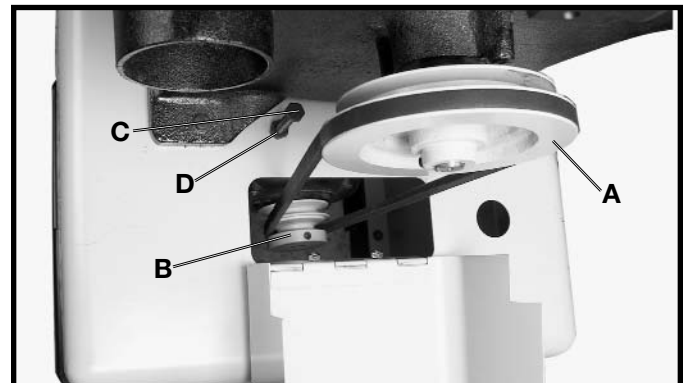

Fig. 18
1. Place the belt over the saw pulley (A) Fig. 18. **NOTE: THE MODEL 28-276 HAS ONLY A ONE STEP PULLEY. THE MODEL 28-206 HAS A TWO STEP PULLEY AS SHOWN IN FIG. 18.**
2. Lift the motor and place the other end of the belt around the motor pulley (B) Fig. 18. The weight of the motor will provide the correct belt tension. **NOTE: NEVER OPERATE THE BAND SAW WITHOUT ALL THE GUARDS IN PLACE.**
6. Turn bolt (C) Fig. 18, clockwise, until the dampening cap contacts the motor.
7. Back the bolt (C) Fig. 18, out approximately 1/4" and tighten the nut (D) against the top of the stand to hold bolt (C) in place. **NOTE: THE BOLT AND THE DAMPENING WASHER ARE NOT TO BE USED TO TENSION THE BELT. THE BOLT AND DAMPENING WASHER ARE USED TO KEEP THE MOTOR FROM RAISING UP TOO FAR WHEN STARTING THE MOTOR.**